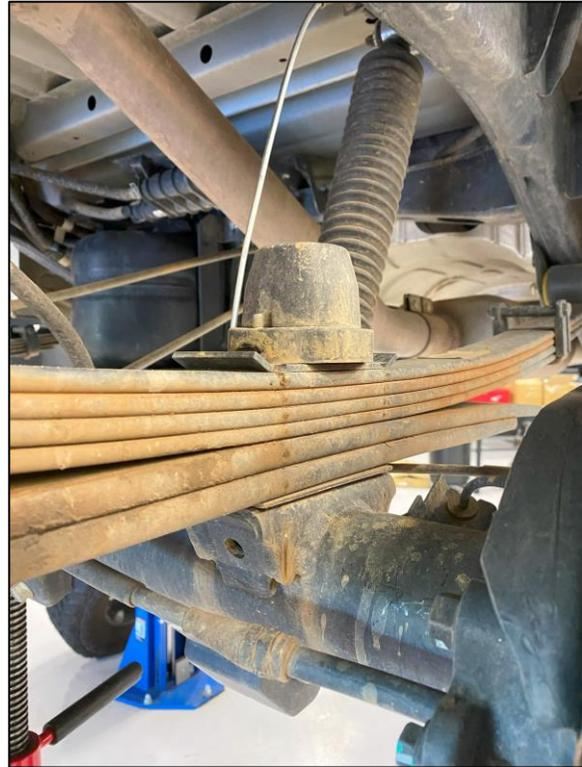

Figure 2
5. Remove the U-Bolt Plate and U-Bolts from the Leaf Springs. *Figure 2.*